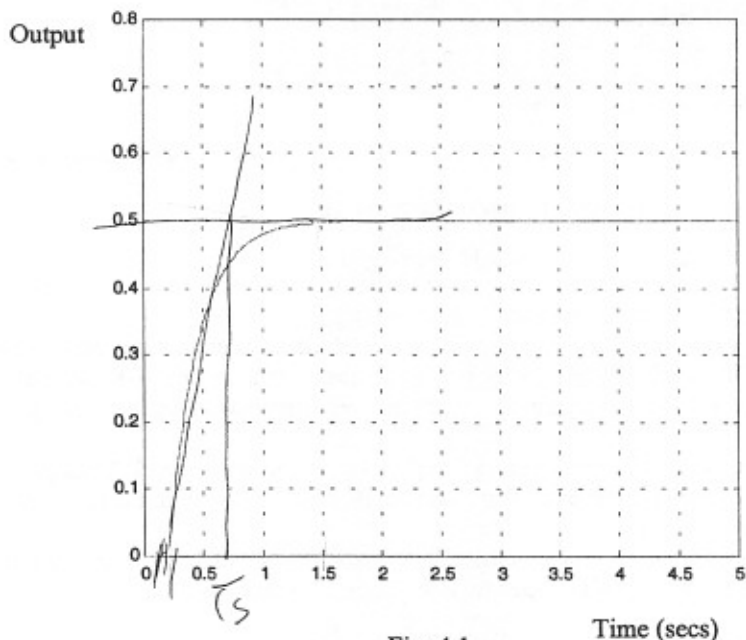

Fig: 4.1
- a) The response of a system to a unit step is given in Figure 4.1. Design a PID controller for this system by using the Ziegler Nichols method.